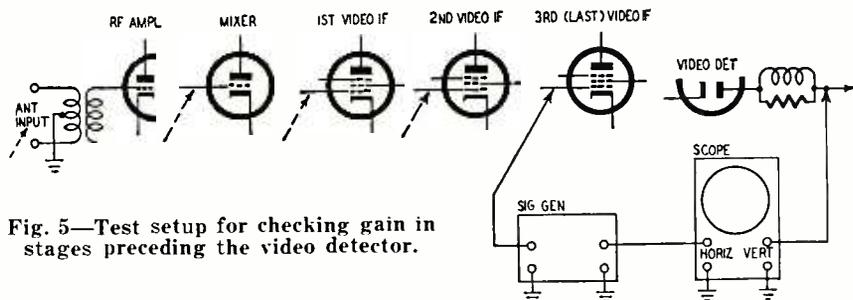

Fig. 5—Test setup for checking gain in stages preceding the video detector.
3. *Gain checks with a sweep signal generator and oscilloscope* When a fault is located to the video section before the video detector, it can be further localized by gain checks with a sweep generator and oscilloscope. Turn set to a blank channel and disconnect the antenna lead-in from the antenna terminals. The scope is left at the detector load throughout the series of checks (Fig. 5).